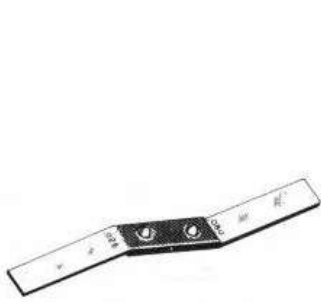
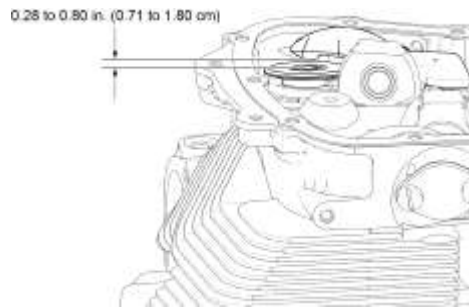

Figure 38
Figure 39
- (1) Push in on the push rod end of the valve rocker.
- (2) Use a Valve Clearance Gage (ST-23) (Figure 38) to measure the distance between the end of the valve rocker assembly and the valve stem cap (Figures 39 and 40).
- (3) The distance must be between 0.028 and 0.080 in. (0.711 to 2.032 mm).